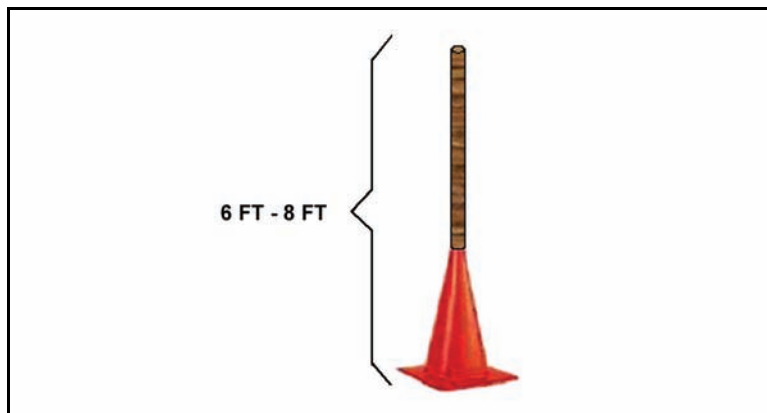

Figure C-6. 6-to-8 foot course pylons.
- Six (6)-to-8 foot pylons should used to canalize the course (Figure C-6).